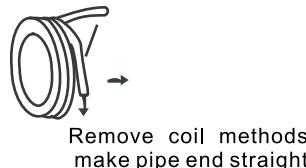

Figure 5.3
b. Bending thin-wall connecting pipe (Fig. 5.3).
① Cut away a notch of a required size in the insulated tubing at the place of sinuosity when operating with the sinuosity, then expose the pipeline (wrap it up with binder after it gets bent).
② Bend radius as much as possible so as to avoid squash or destruction.
③ Use pipe bender to make close sinuosity.